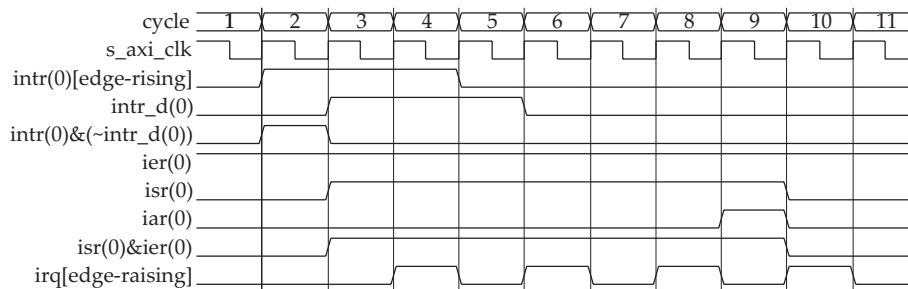

Figure 19: Input Intr - Edge Sensitive (Rising) and Output Irq - Edge Sensitive (Rising)
- Configured Input Interrupt (Intr) for Edge sensitive (rising) and Output Interrupt Request (Irq) to Edge sensitive (rising) and is shown in Figure 19.